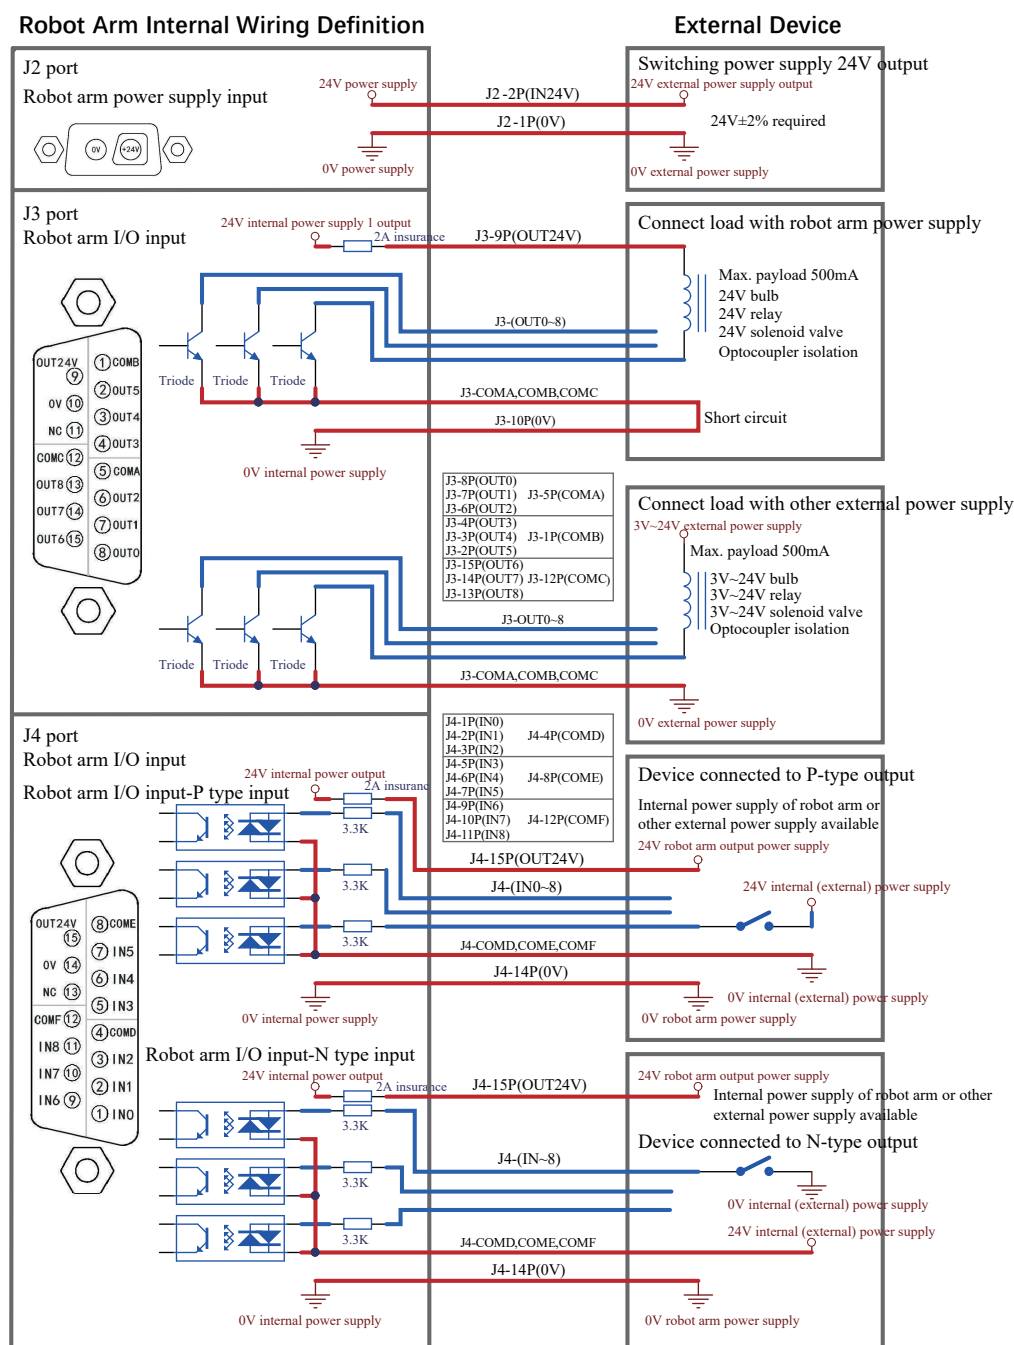

Figure 2
3.The internal circuit design of the J3 and J4 interfaces (as shown in Figure 2)